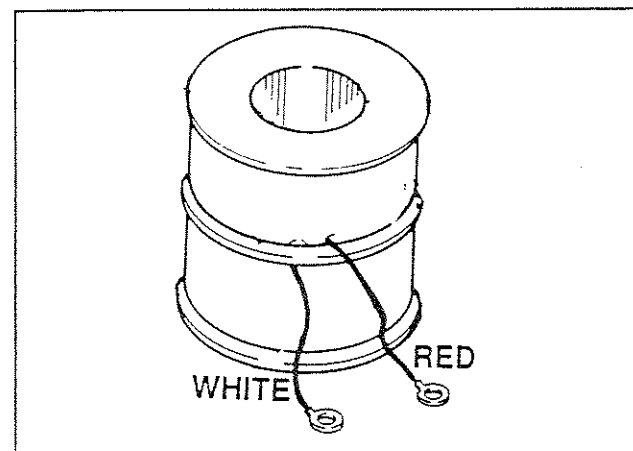

Figure 10. Red and White Wires on Solenoid Coil
3. If not already done, disconnect the red (+) and white (-) wires from the solenoid coil (see Figure 10).